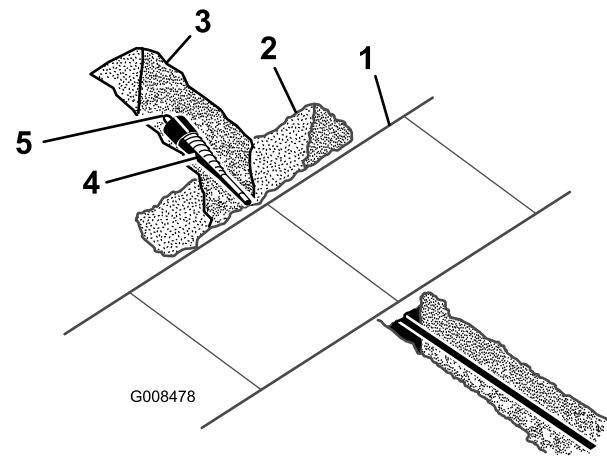

Figure 6
1. With a shovel, carefully dig around the boring bit, clearing it of soil until it can be removed (Figure 6).
2. Remove the boring bit and attach the reamer (Figure 6).
3. Attach the cable or piping being installed to the swivel on the end of the reamer (Figure 6).